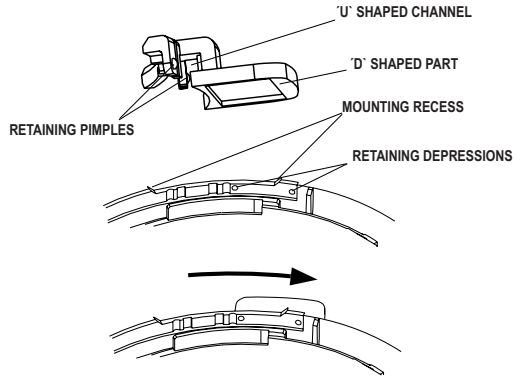

FIG. 5 Fitting Address Label Carrier
- 5) Fit the address flag to the detector, see Fig.5.